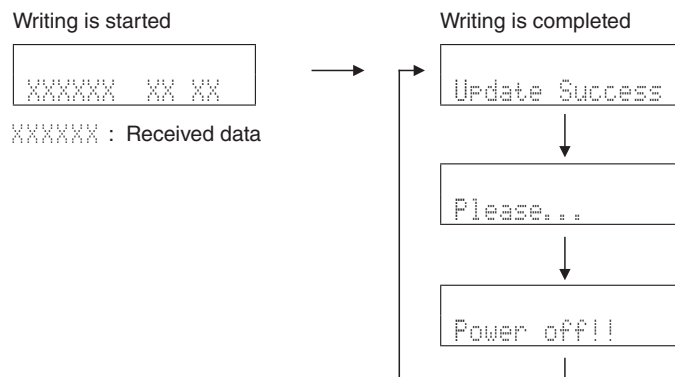

Fig. 3
2. Play the firmware CD on the BD/DVD/CD player. Writing of the firmware starts automatically. (Fig. 3)
3. When writing of the firmware is completed, "Update Success", "Please..." and "Power off!!" are displayed repeatedly. (Fig. 3)